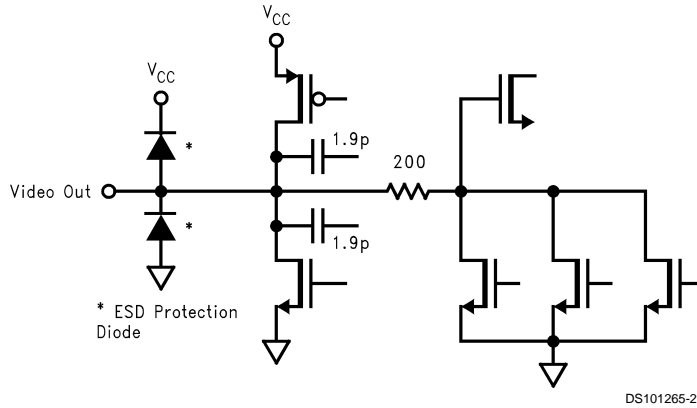

FIGURE 21. Pins 23, 24, and 25 (Video Out)
**Pin 23, 24, and 25—Green, Red, and Blue Video Out** These pins output the red, green, and blue video information in the VideoPlex format. These pins are connected to the LM2453 using as short of traces as possible. An inductor should be in series with the trace between the preamp and CRT driver. The value of this inductor depends on the board layout. Figures 29, 30 show the external schematic of pins 23, 24, and 25, Figure 21 shows the internal schematic.